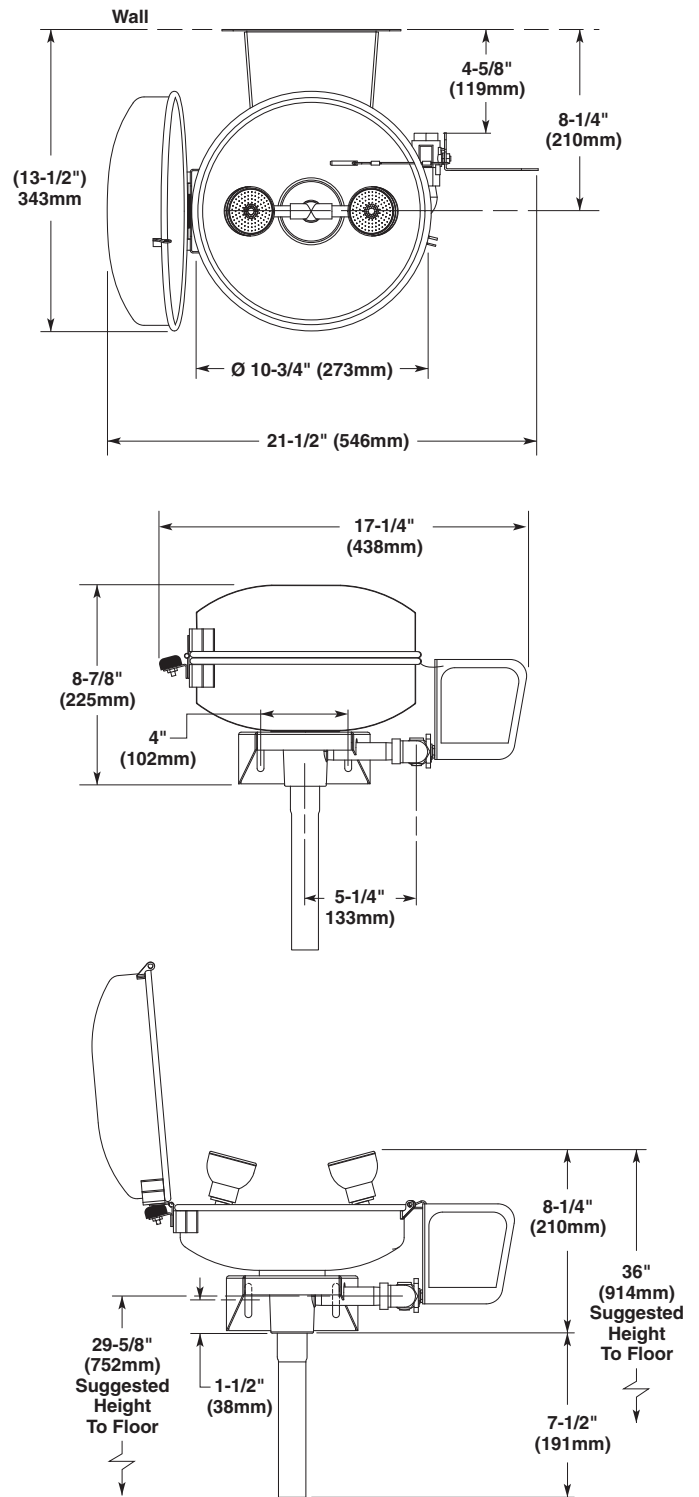

Figure 1
2. Using the inlet drain fitting as a template, mark the bolt hole locations on wall OR install three suitable fasteners (supplied by installer) for 1/4" bolts in the wall at the marked hole locations (see Figure 1).